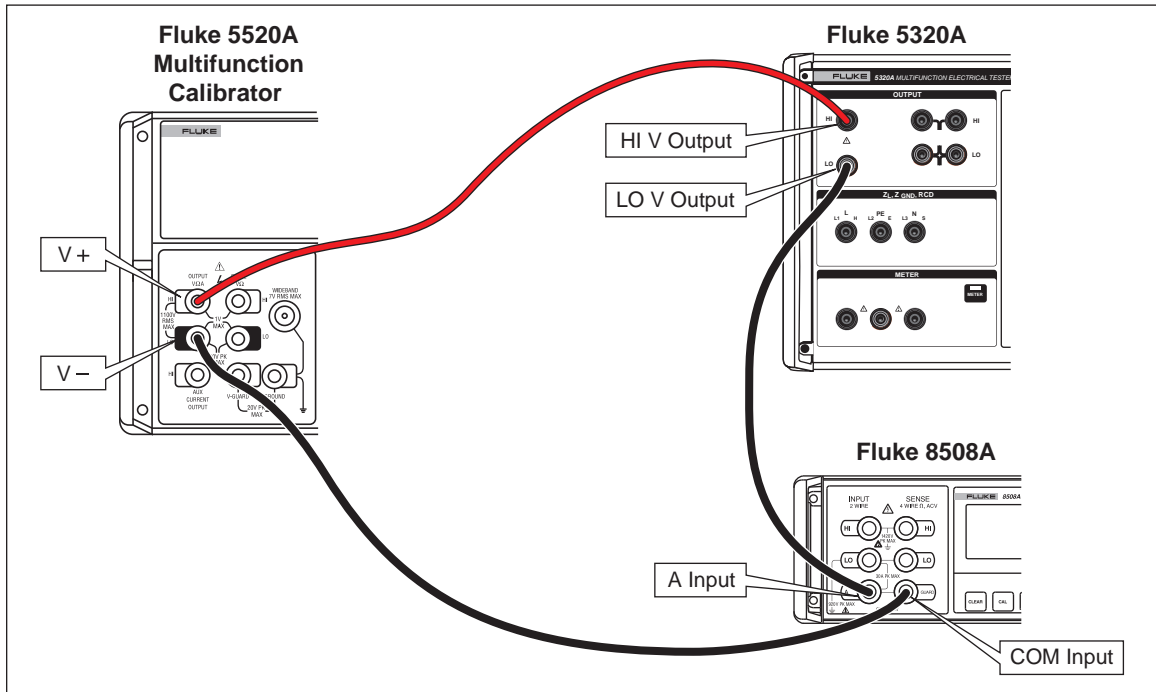

Figure 6-2. Multimeter Current Verification Setup
1. Select the passive leakage current function on the Calibrator. Connect a standard multifunction calibrator's output (Fluke 5520A in this example) to the HI and LO V~ terminals of the Calibrator as shown in Figure 6-2. On the 5520A calibrator, set its output to the nominal voltage of the power line voltage the Calibrator is powered from (115 V ac or 230 V ac), and set the frequency to 55 Hz.
2. Connect the standard multimeter's current terminals according to the connections shown in Figure 6-2. Select the ACI function with autorange on the standard multimeters (for example, Fluke 8508A).